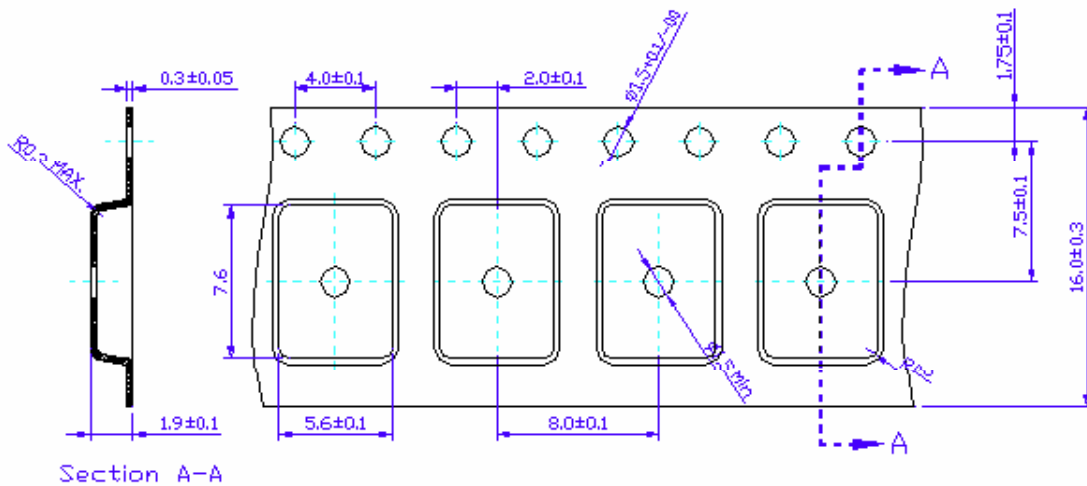

Figure 6: Tape and Reels
**Design Hint (T-Pad):** The RCT-433-UTR transmitter can be sensitive to unbalanced or unmatched loads and could fail to operate or operate intermittently in this condition. Try to match your antenna load as close to 50 ohms as possible. Use a T-pad if necessary to give the transmitter a close 50 ohm match before your antenna. A T-pad will also act as an attenuator. See figure 6 below, for a T-pad match/attenuator circuit.